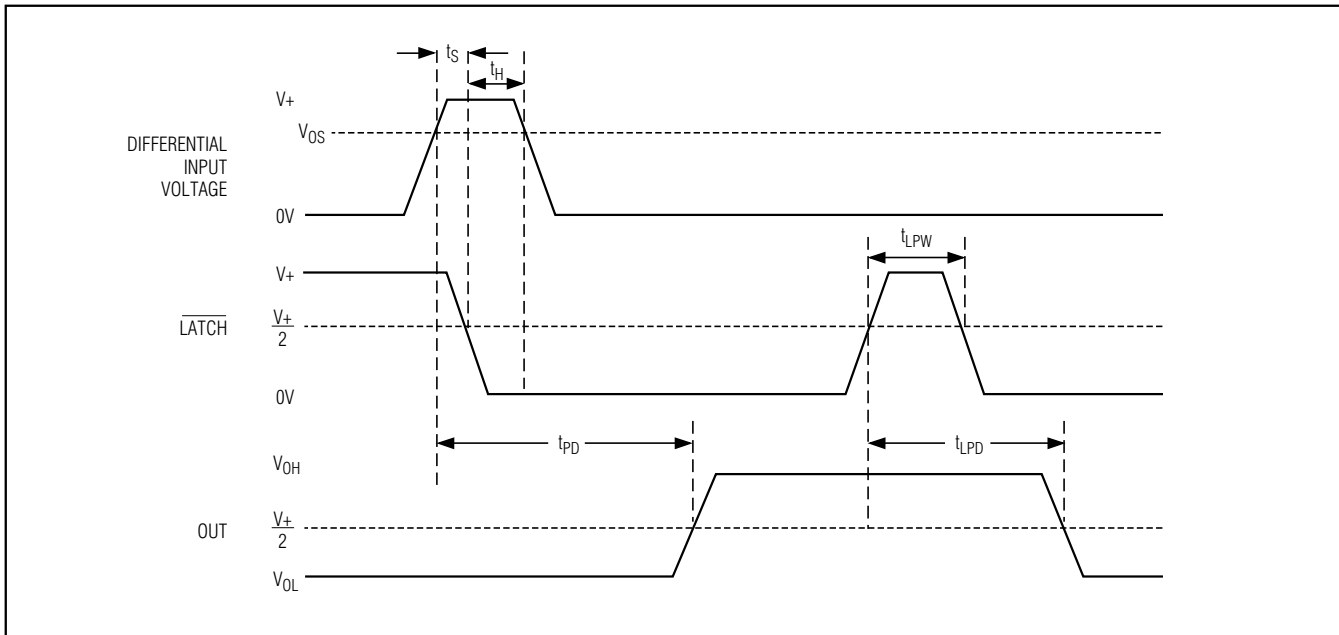

Figure 2. MAX941 Timing Diagram with Latch Operator
**Note 8:** Parameter is guaranteed by design and specified with VOD = 5mV and CLOAD = 15pF in parallel with 400μA of sink or source current. VOS is added to the overdrive voltage for low values of overdrive (see Figure 2).
**Note 12:** Applies to the MAX941 only. Comparator is active with  $\overline{\text{LATCH}}$  pin driven high and is latched with  $\overline{\text{LATCH}}$  pin driven low (see Figure 2).
The MAX941 includes an internal latch that allows storage of comparison results. The `LATCH` pin has a high input impedance. If `LATCH` is high, the latch is transparent (i.e., the comparator operates as though the latch is not present). The comparator's output state is stored when `LATCH` is pulled low. All timing constraints must be met when using the latch function (Figure 2).